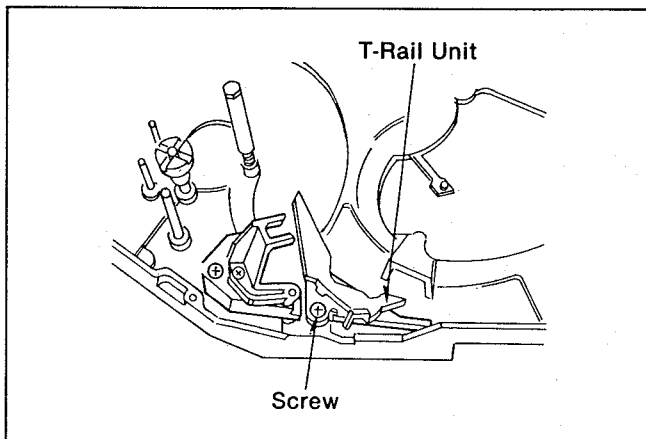

Fig. M1
- (1). Install a T-Rail Unit and Lock Base Unit as shown in Fig.M1,M2.